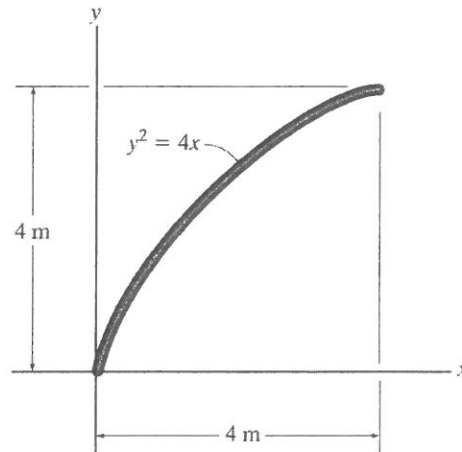

Figure Q6 (a)
- (a) A uniform parabolic-shaped rod is shown in Figure Q6 (a), where the mass per unit length is 2kg/m.